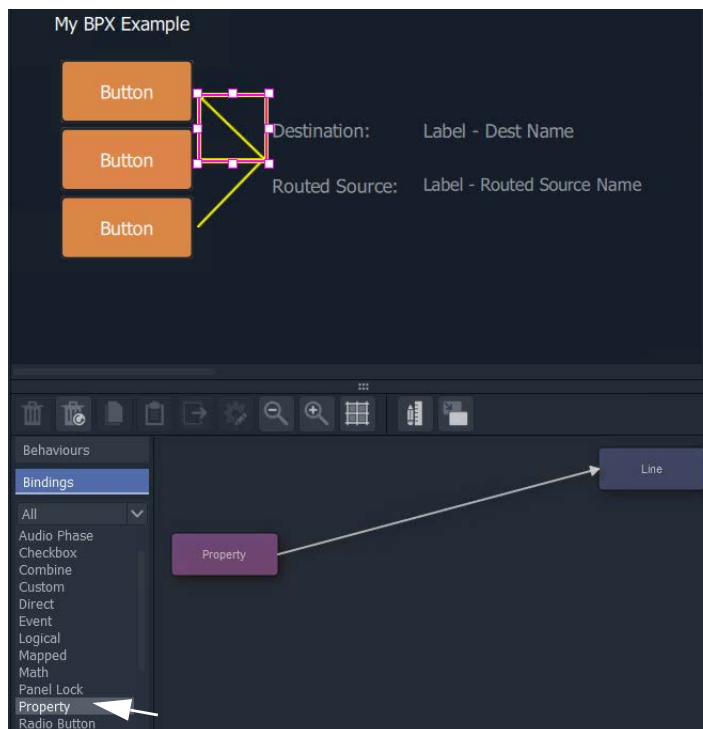

Fig. 14-61: Add Property Binding
- 4 Select the line and add a **Property** Binding. See Figure 14-61.